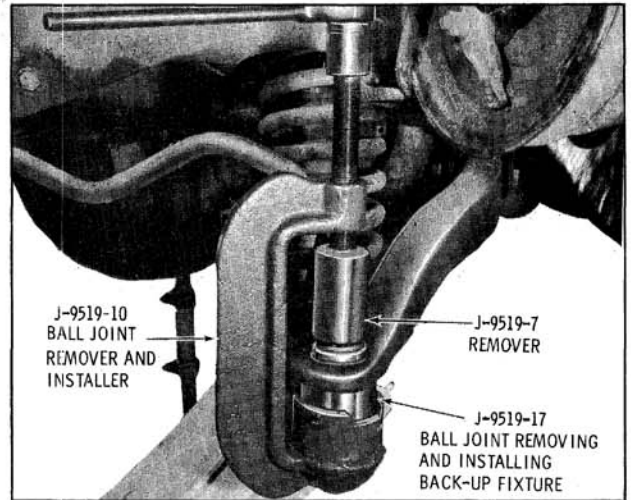

Fig. 9-122 Removing Lower Ball Joint
7. Remove grease fitting, then install tools as shown in Fig. 9-122 and press out ball joint.